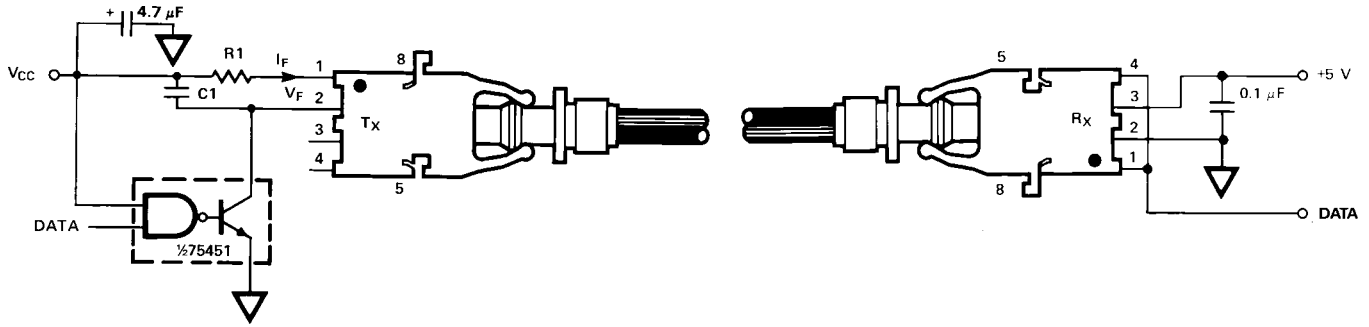

Figure 11. Required 1 Mb/s interface circuit
The HFBR-25X2Z receiver can not be overdriven when using the required interface circuit shown in Figure 11.
- The LED drive circuit of Figure 11 is required for 1 MBd operation of the HFBR-25X2Z/25X4Z.